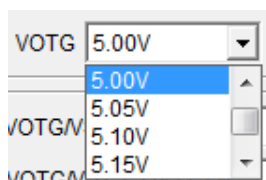

Figure 19: OTG Output Voltage Configuration
5. Set the OTG output voltage (see Figure 19).